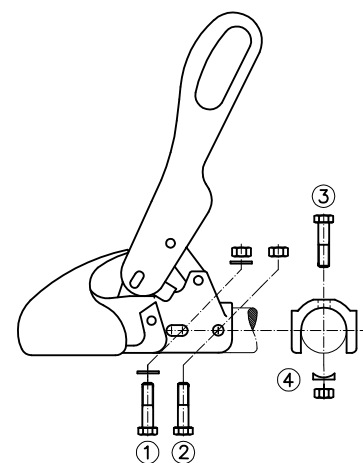

Fig. 3: Connection
The WS 3000-H/L/LB are specially designed for inertia braking systems and are fitted with crossways screw connection (1)+(3) and **40 mm** hole spacing (Fig. 3). The fastening material is not included with the product.
2.2 If the WS 3000/3500 coupling is being used as replacement for another type of coupling, attention must be paid in respect of the overrun device that the shock absorbers are correctly fitted and that any spacers in the drawbar are correctly reinstalled. With the WS 3000-D, please use the provided Ø 12x34 mm or Ø 12x49 mm bolts to assist with this depending on the size of the drawbar diameter. Use Ø 14x63 mm bolts for the WS 3500-D. Please use the provided Ø 12x34 mm or Ø 12x49 mm bolts as to assist with this depending on the size of the drawbar diameter. Use bolts to push through when removing the fastening screw (2) or (3) (Fig. 3) depending on the type of shock absorber fastening, and insert in the drawbar for centering the shock absorber when connecting/dismantling the ball coupling. Remove the bolt again when inserting the new fastening screw.